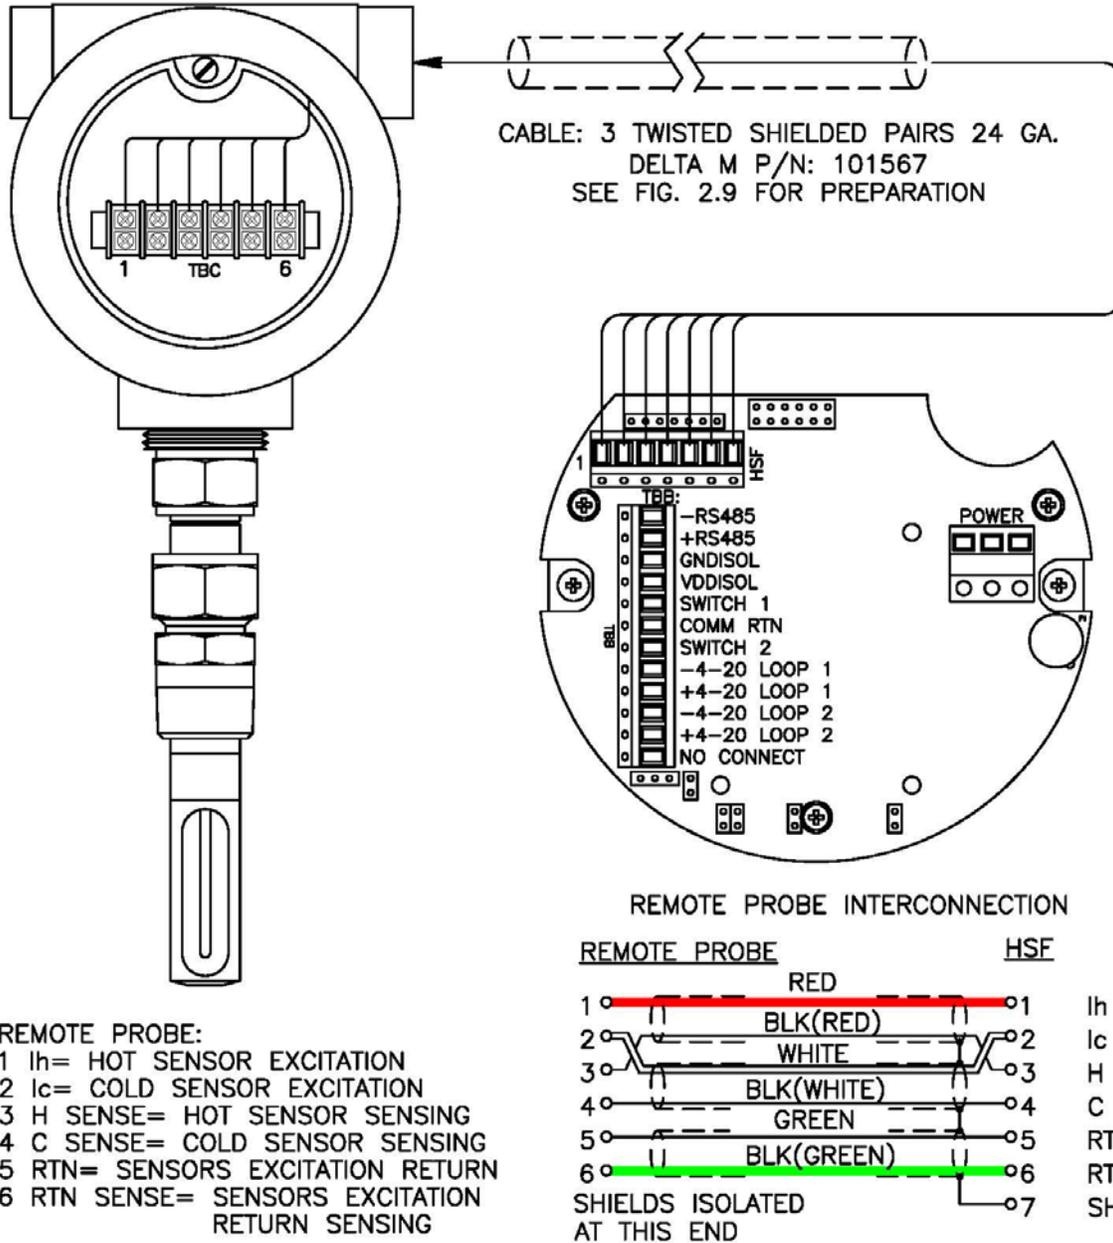
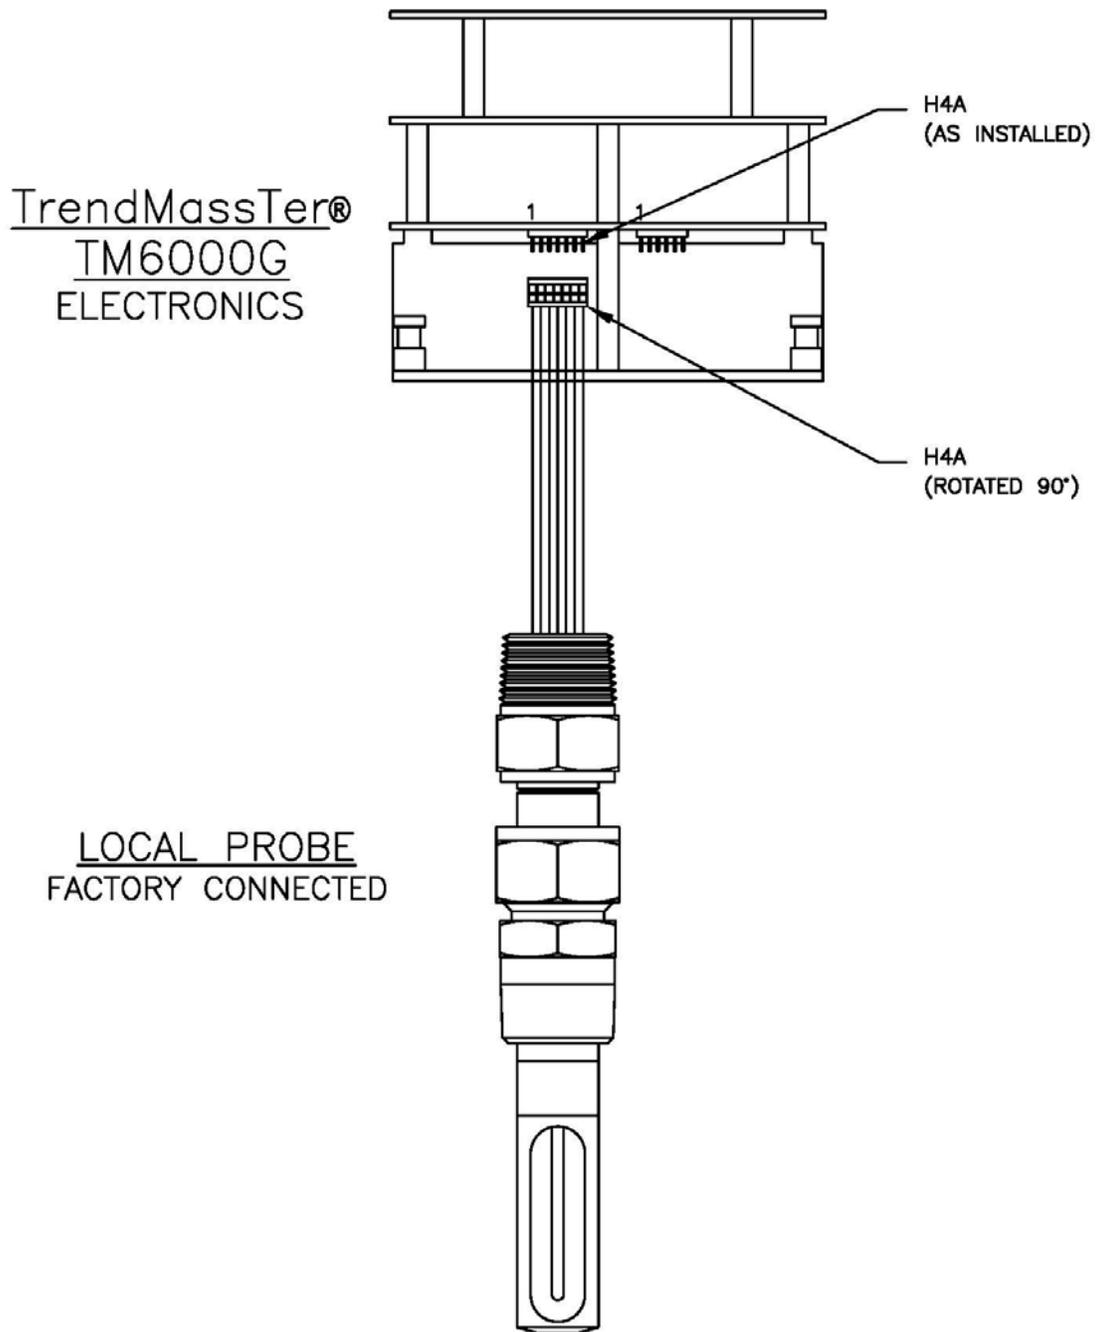
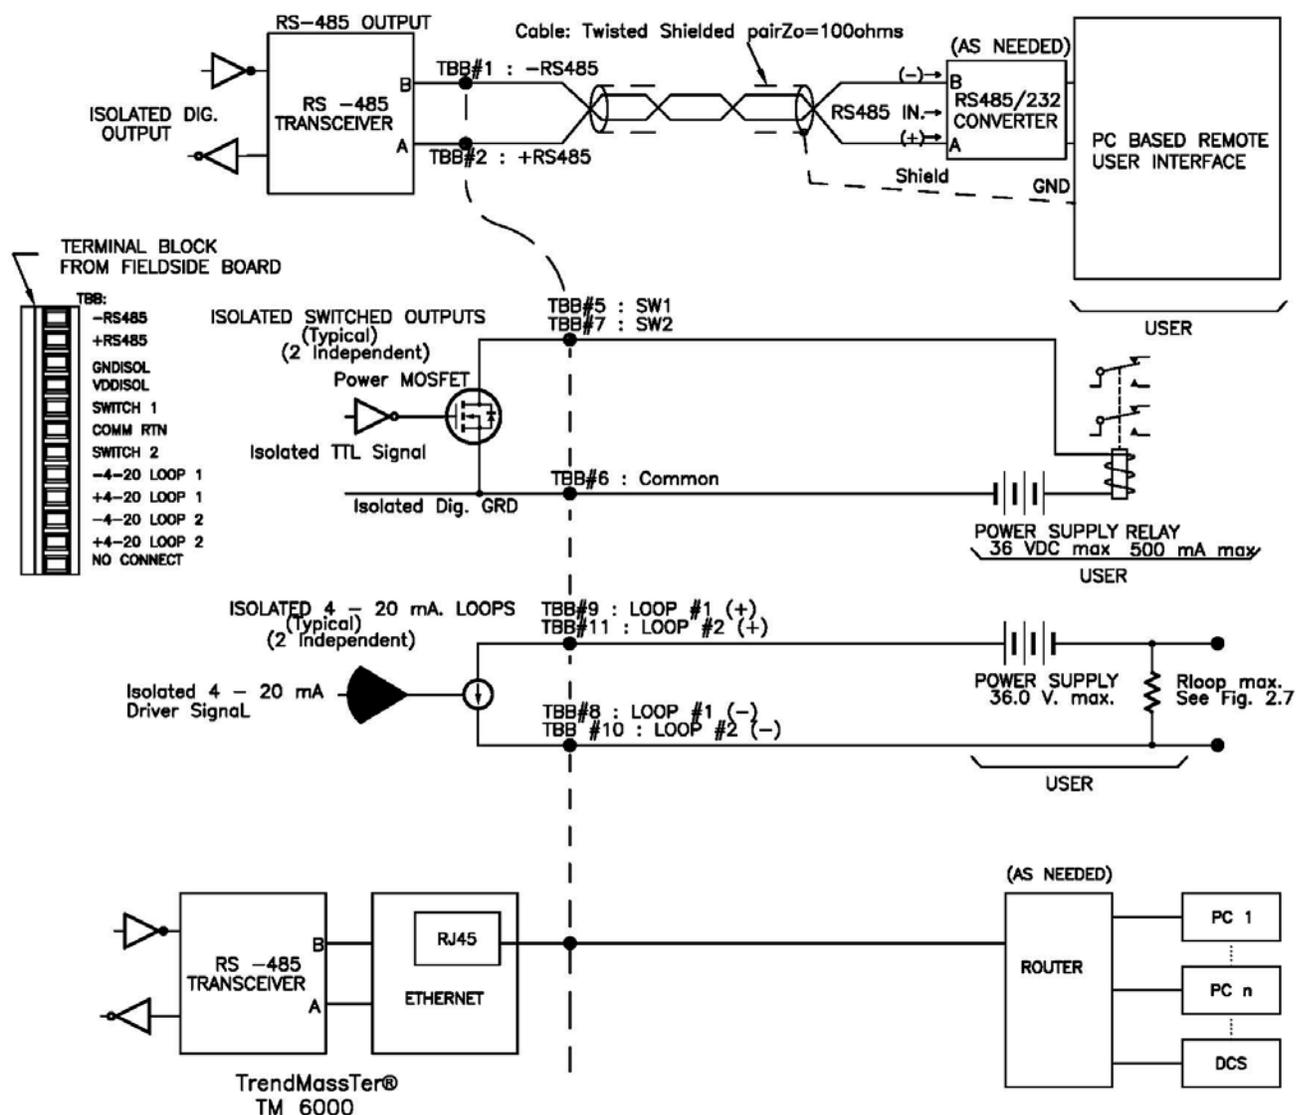
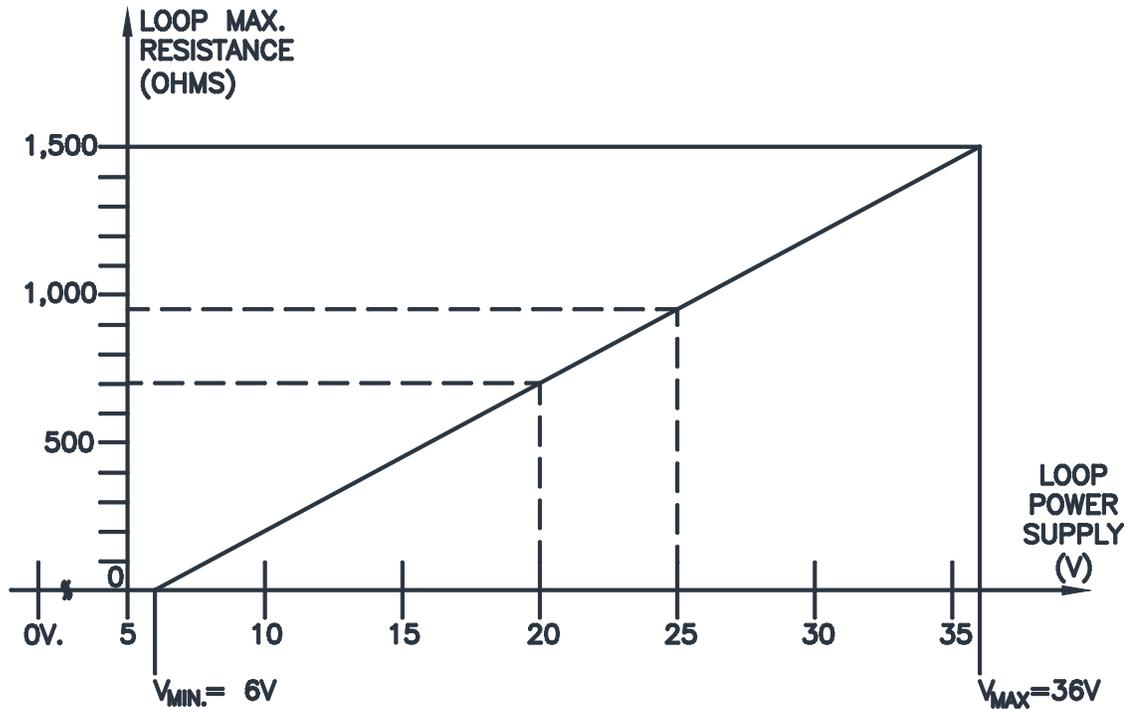

Figure 2.5 TrendMassTer® Field Wiring For Remote Probe
Figure 2.6 TrendMassTer® Local Probe Field Wiring
Figure 2.8: TrendMassTer® Outputs Wiring
Figure 2.10: Maximum Loop Resistance vs. Supply Voltage
Figures 2.5 and 2.6 show the various field wiring connections for input power. Figure 2.8 shows the wiring connections for output signals.
The small terminal block labeled POWER on the right side of the connector plate (Figure 2.5) is where the power wiring will be connected. A 14 gauge wire is the maximum size this connector will accommodate. Smaller gauge wire may be used depending upon the distance from the installation to the power source.
In the Local Electronic (LE) configuration the sensor probe wiring to terminal block TBA is factory wired as shown in Figure 2.6. For Remote Electronics (RE) see Figure 2.5 and Section 2.4.2.
Using Figures 2.5 and 2.8 as guides, choose the desired outputs for the application and carefully connect wiring to the appropriate terminals shown. Terminal no.12 of TBB is not used.
NOTE: The isolated 4-20mA output loops are externally powered. For normal operation 6V to 36 V DC power is supplied by the user. The maximum loop resistance is dependent upon the supply voltage which is provided in Figure 2.10. R_{MAX} can be obtained from the plot of Figure 2.10 based on supply voltage or can be calculated from: $R_{MAX} = 50 * (V_{SUPPLY} - 6.0V)$ Connect the external supply and load as shown in Figure 2.8.